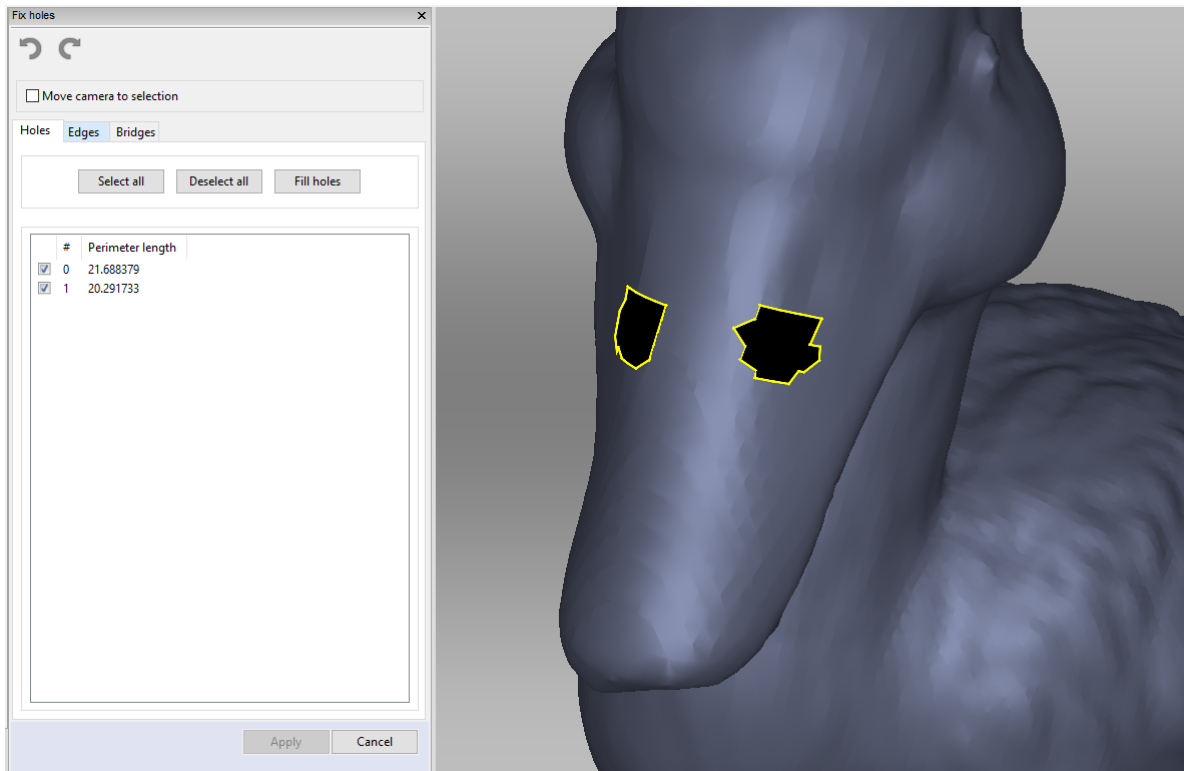

Figure 91: Two holes marked for correction.
3. Select a hole either in *3D View window* or mark the checkbox next to it in the list. Artec Studio will highlight these holes in red (see Figure 91).